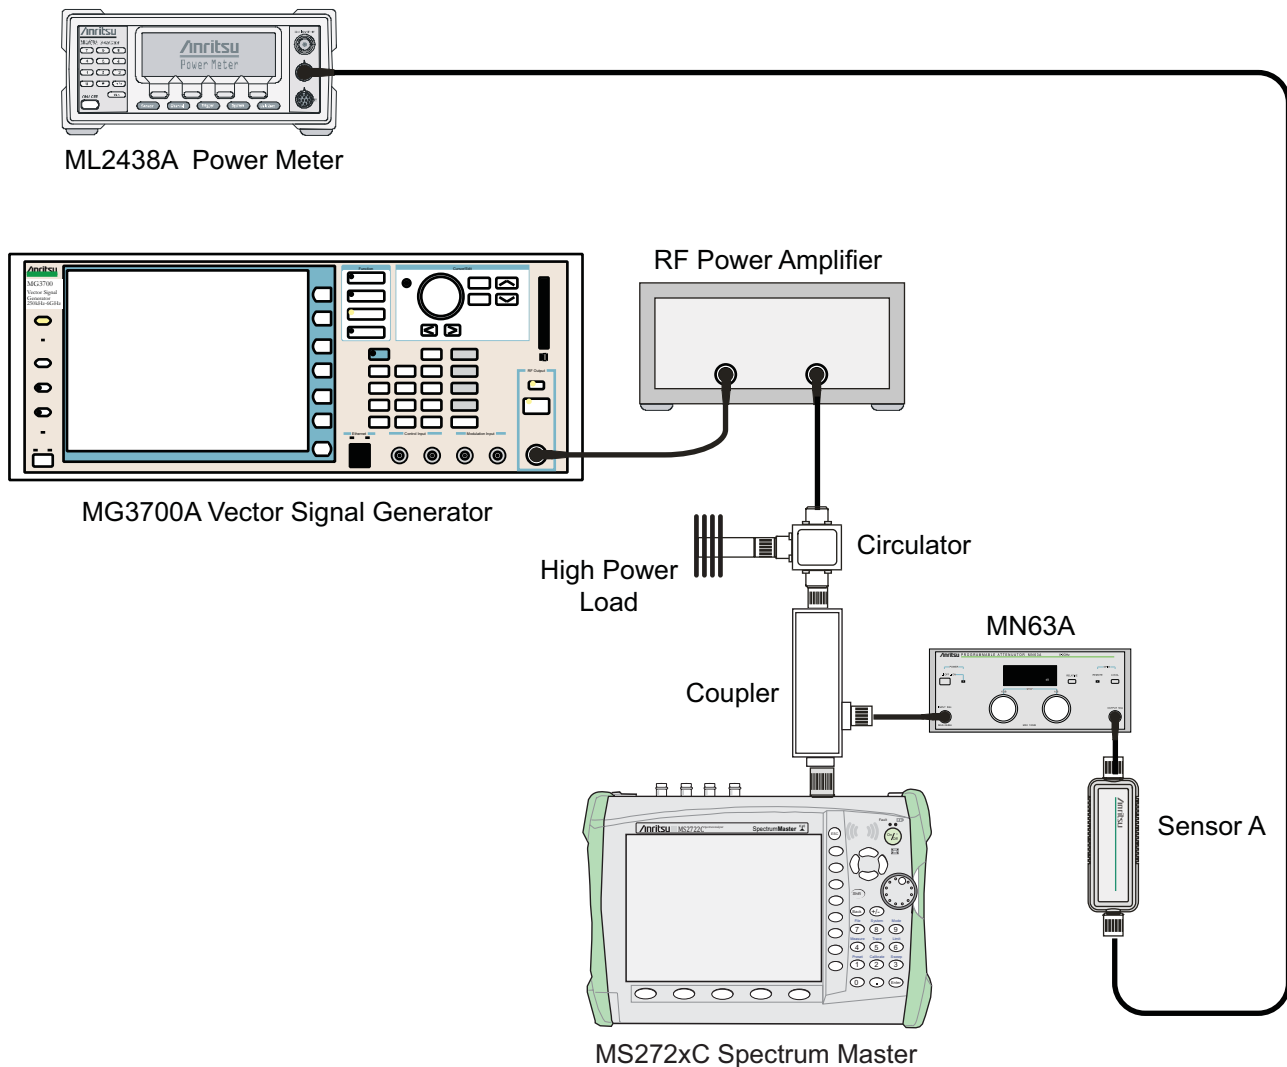

Figure 3-5. WCDMA/HSDPA Signal Analyzer, Test Setup for Spectrum Master
33. Disconnect the coupler from Sensor B and connect the coupler to the MS272xC, refer to Figure 3-5 on page 3-16.